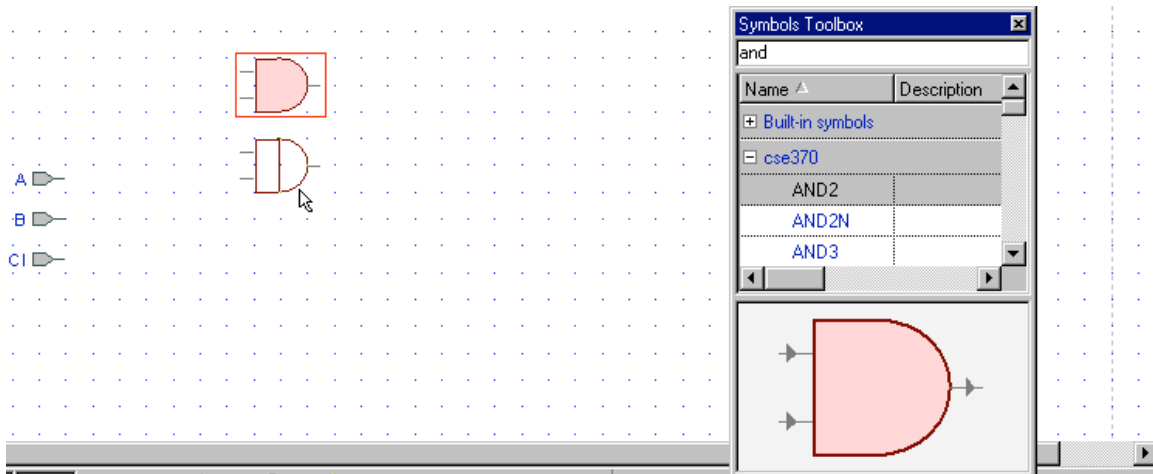

Figure 19
9. Active-HDL uses the standard Windows user-interface to select, move, and copy items in the schematic (i.e. drag, Ctrl-drag for copying multiple parts, Ctrl-z for undo, etc.). Figure 19 is an example of Ctrl-drag.